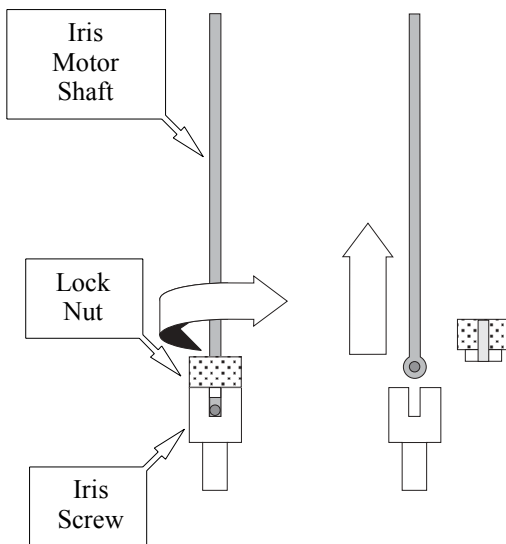

Figure 7-12 Disconnecting the iris motor shaft from the iris screw.
12. **Disconnect the iris motor shaft from the iris screw.** First unscrew the lock nut from the iris screw. Lift the shaft upwards to disconnect. Move the iris motor to the side where it is out of the way. (See Figure 7-12.)